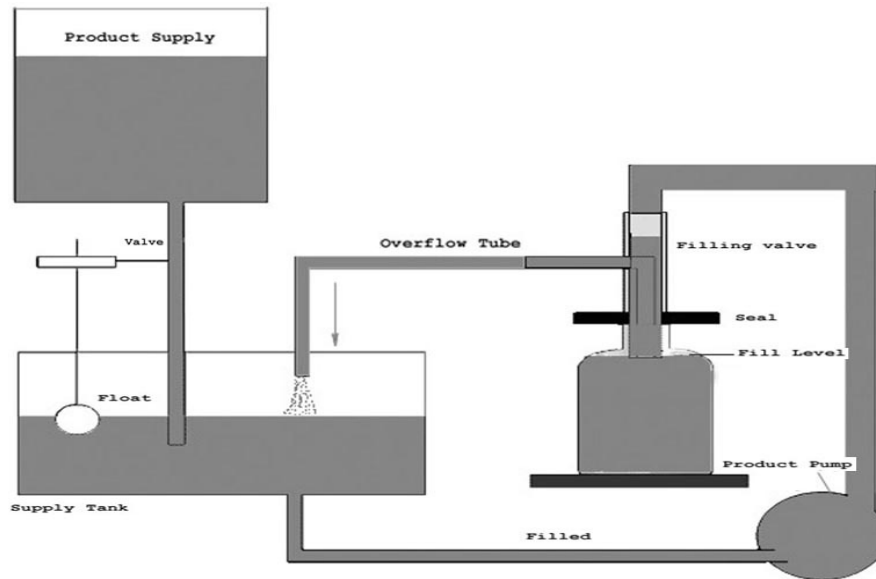

Figure 20.17 Pure pressure filling
- The product is pumped from a storage tank through a filling valve and into the container(Figure 20.17).